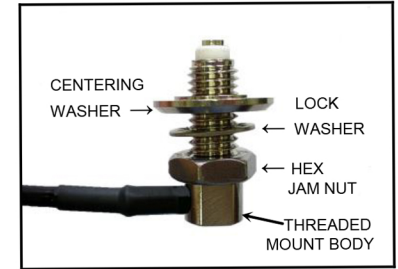

Figure 4
- a. Remove the NMO Mount Nut from the Threaded Body. Thread the Hex Jam Nut completely toward the bottom end of the Threaded Body. Place the Lock Washer first, followed by the Centering Washer onto the Threaded Body. **Note:** The Lock Washer should be located between the Hex Jam Nut and the Centering Washer. See Figure 4.